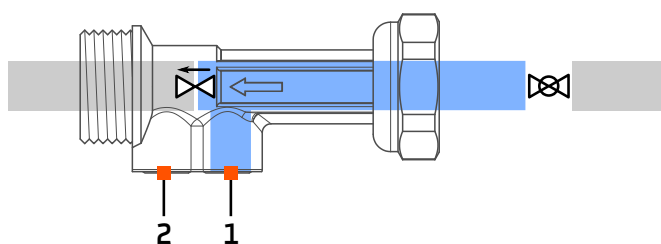

Fig. 1: VNR 01 installation layout.
3. Open the first test point (1 in Fig. 1);
The water content indicated in blue in Fig. 1 should pour out of test point 1, then the flow should stop.
In case water flow does not stop, check the valve sealing and eventually consider to replace the valve. Point 2 in Fig. 1 can be used to